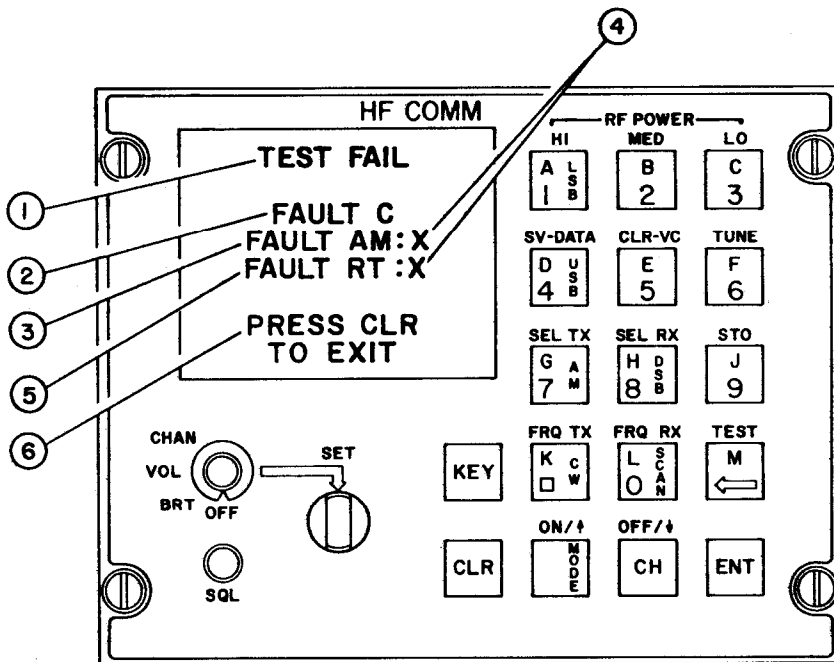

Figure 2-17. Failed Test Display
2. **Failed test display.** Refer to figure 2-17. The failed test display has six lines of data. Explanation of the codes is as follows: